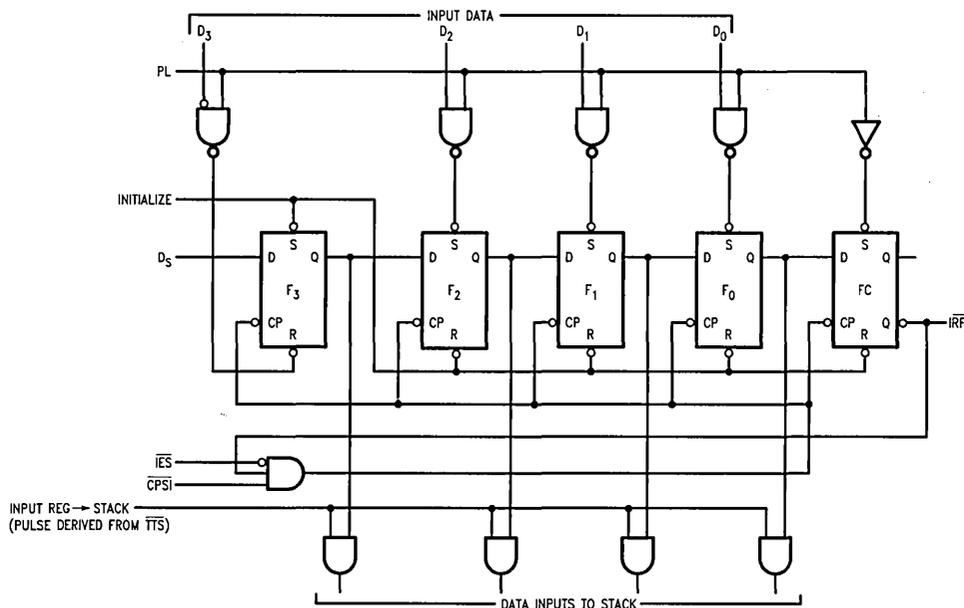

FIGURE 1. Conceptual Input Section
This 5-bit register (see *Figure 1*) is initialized by setting flip-flop F_3 and resetting the other flip-flops. The \overline{Q} -output of the last flip-flop (FC) is brought out as the Input Register Full (IRF) signal. After initialization, this output is HIGH.